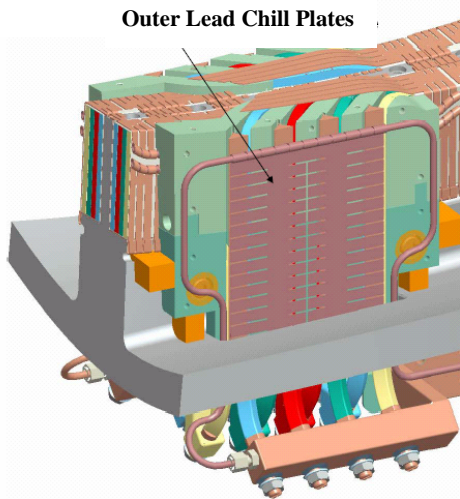

Figure 34- Outer Lead Area Chill Plate
- 6.42.1 Pre-fit the outer lead chill plate to the lead area to ensure that there are no interferences. [Figure 34- Outer Lead Area Chill Plate]